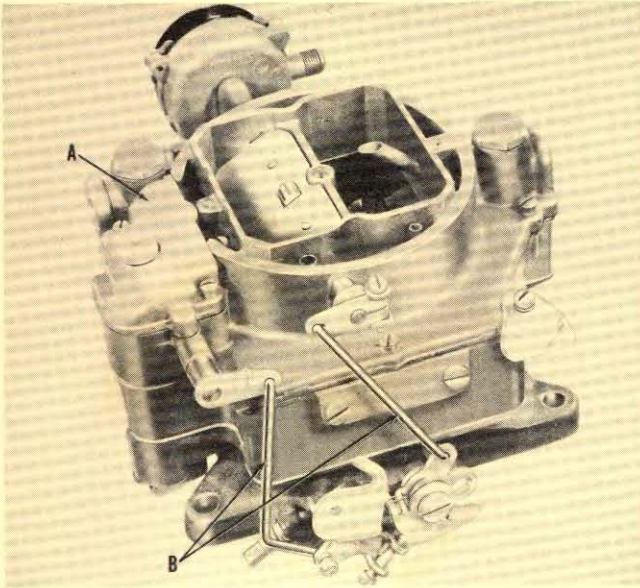

Fig. 1
1. Remove the metering rods dust cover, "A" Fig. 1. Disconnect the metering rods from the vacumeter link by using a scratch awl or a pointed instrument and pushing outward on the eye of the rod and then extract the rod.
2. Unsnap the clips and remove the choke rod and the accelerator pump rod, "B" Fig. 1.